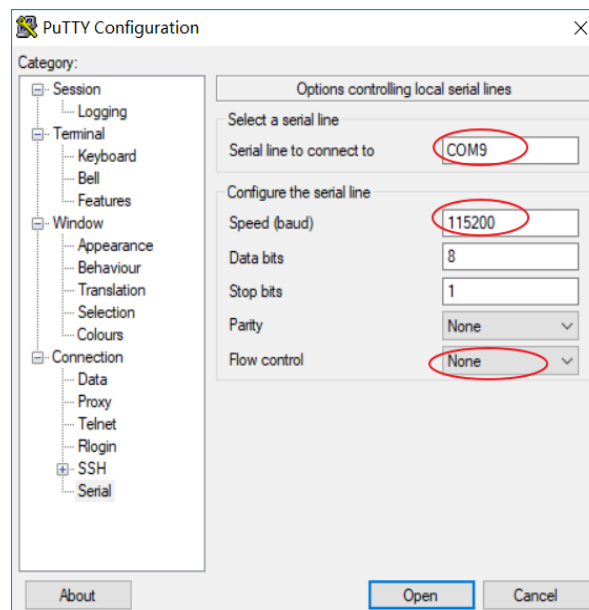

Figure 5-12 Set Port Paramaters
- Set the PuTTY Configuration, set COM port number as same as shown in Device Manager, baud rate “115200” , Flow Control select “None”, as shown in **Figure 5-12**.